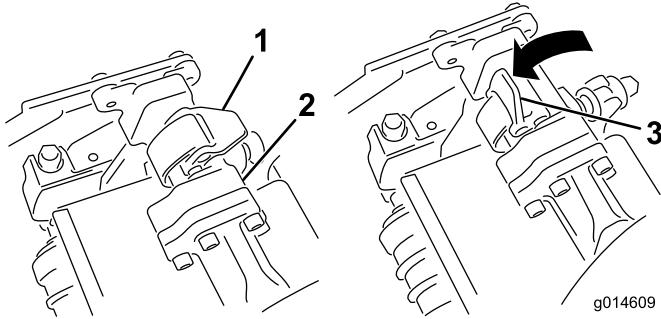

Figure 33
- 3. With the latches on the suspension-arm bar pointing up (i.e., open) (Figure 33), push the suspension arm
4. Close the latches down and around the cutting-unit bar and lock them in place (Figure 33).
- Open the latches on the suspension-arm bar of the cutting unit you are removing (Figure 33).